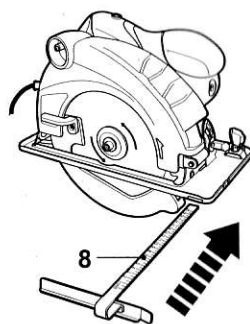

Fig. 1
- > Loosen the fixing screw (5) anticlockwise.
- > Align the parallel guide (8) to the support and insert it (Fig. 1).
- > Fix the parallel guide (8) in position turning the fixing screw (5) clockwise.